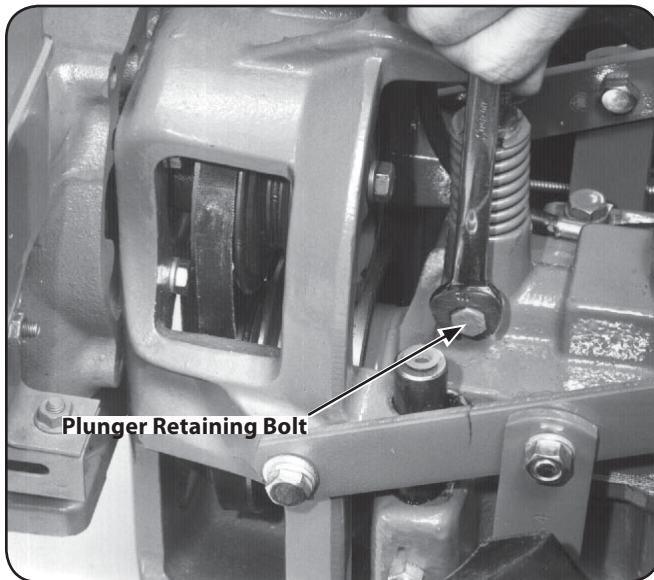

Figure 6-24
8. Place a chalk or pencil mark on the top edge of the plunger retaining bolt. Now, while watching the mark, loosen the bolt $\frac{3}{4}$ -turn. See Fig. 6-24. Do not exceed a $\frac{3}{4}$ turn. This would disengage the bolt from the locking groove in the side of the plunger.